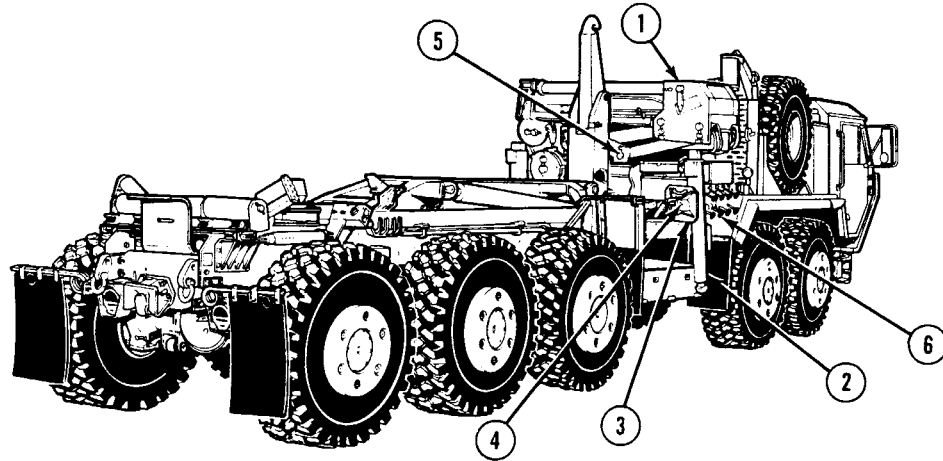

Figure 1-20. Material Handling Crane (MHC)
The truck Material Handling Crane (MHC) (Figure 1-20) is a fully hydraulic load-moment sensing crane (1) powered by the truck hydraulic system. The crane is mounted behind the cab, bolt-attached to the truck frame and is capable of lifting a 3,900 lb (1770 kg) pallet from any location on the FR. The crane can load/unload pallets to either side of the truck. Truck stability and leveling is accomplished with left- and right-side hydraulically operated stabilizers (2) that are fabricated as a part of the crane substructure. These stabilizers/outrigger jacks can be controlled from either side of the truck by individual hydraulic controls. The jacks can level the truck when it is inclined up to 7 degree side slope. Check valves are used to hold the outriggers position. Safety switches are installed in the outrigger jacks to prevent crane operation unless the outriggers are in place. The outrigger pads (3) are attached to the outrigger jacks by means of quick pins (4) and are stowed on the crane base. The pads swivel 360 degrees when installed on the jacks.
a. Hydraulic System. The hydraulic filters and strainers are located to provide direct access and to allow removal without causing damage to the truck. Bypasses are furnished, where necessary, to protect filters during cold temperature operation. All cylinder rods exposed during operations have a hard chromium plating. Integral mounted or cartridge-type holding valves prevent sudden cylinder collapse in the event of hose burst or major hydraulic failure. If a hydraulic system failure occurs, a hydraulic hand pump (5) located at the operator station permits the operator to lower any load to the ground and stow the crane. The MHC is operated by two hydraulic valve banks (6), located approximately 60 inches (152 cm) above ground on the passenger side of the truck. Four electro-proportional control valves with manual handles connected to spools are used to control crane proper function. Three additional proportional manual control valves are used for erection and outrigger control. The outrigger manual control valves are also duplicated on the driver's side of the truck.